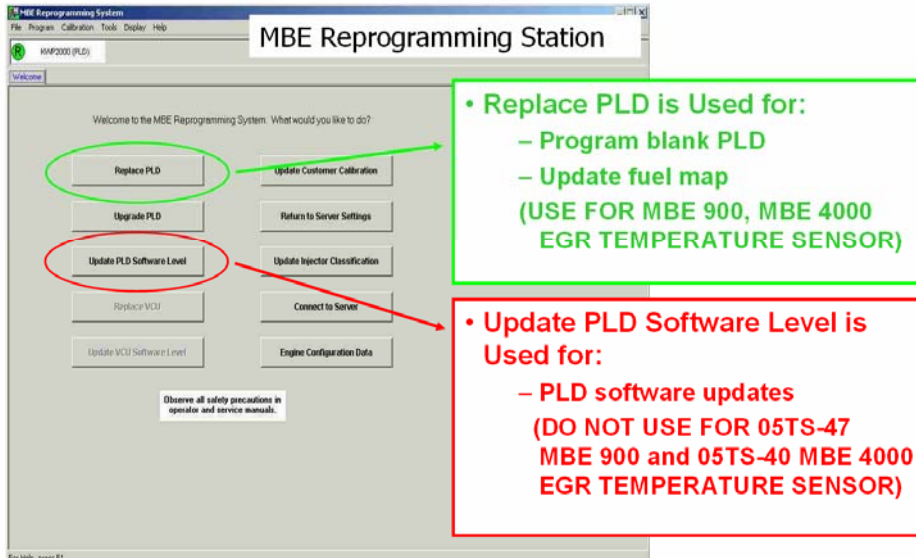

Figure 2 Reflashing the PLD
Do NOT replace the sensor. Reflash the PLD to turn off the sensor (refer to figure 2).
3. Reflash the PLD to update the fuel map which will turn off the sensor (Refer to Figure 2).